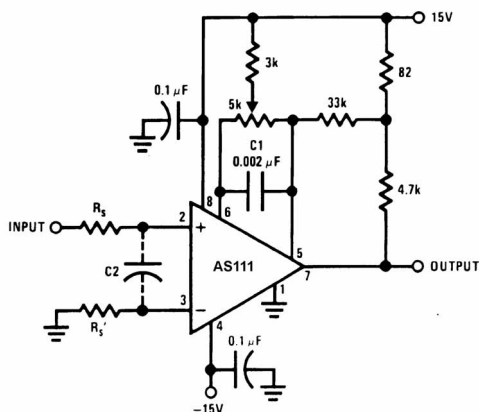

FIGURE 1. Improved Positive Feedback
However, when the input signal is a voltage ramp or a slow sine wave, or if the signal source impedance is high (1 k Ω to 100 k Ω), the comparator may burst into oscillation near the crossing-point. This is due to the high gain and wide bandwidth of comparators like the AS111. To avoid oscillation or instability in such a usage, several precautions are recommended, as shown in Figure 1 below.
should be shorted together. If they are connected to a trim-pot, a $0.01\ \mu\text{F}$ capacitor C1 between pins 5 and 6 will minimize the susceptibility to AC coupling. A smaller capacitor is used if pin 5 is used for positive feedback as in Figure 1.
7. When both inputs of the AS111 are connected to active signals, or if a high-impedance signal is driving the positive input of the AS111 so that positive feedback would be disruptive, the circuit of Figure 1 is ideal. The positive feedback is to pin 5 (one of the offset adjustment pins). It is sufficient to cause 1 to 2 mV hysteresis and sharp transitions with input triangle waves from a few Hz to hundreds of kHz. The positive-feedback signal across the $82\text{ }\Omega$ resistor swings 240 mV below the positive supply. This signal is centered around the nominal voltage at pin 5, so this feedback does not add to the V_{OS} of the comparator. As much as 8 mV of V_{OS} can be trimmed out, using the $5\text{ k}\Omega$ pot and $3\text{ k}\Omega$ resistor as shown.